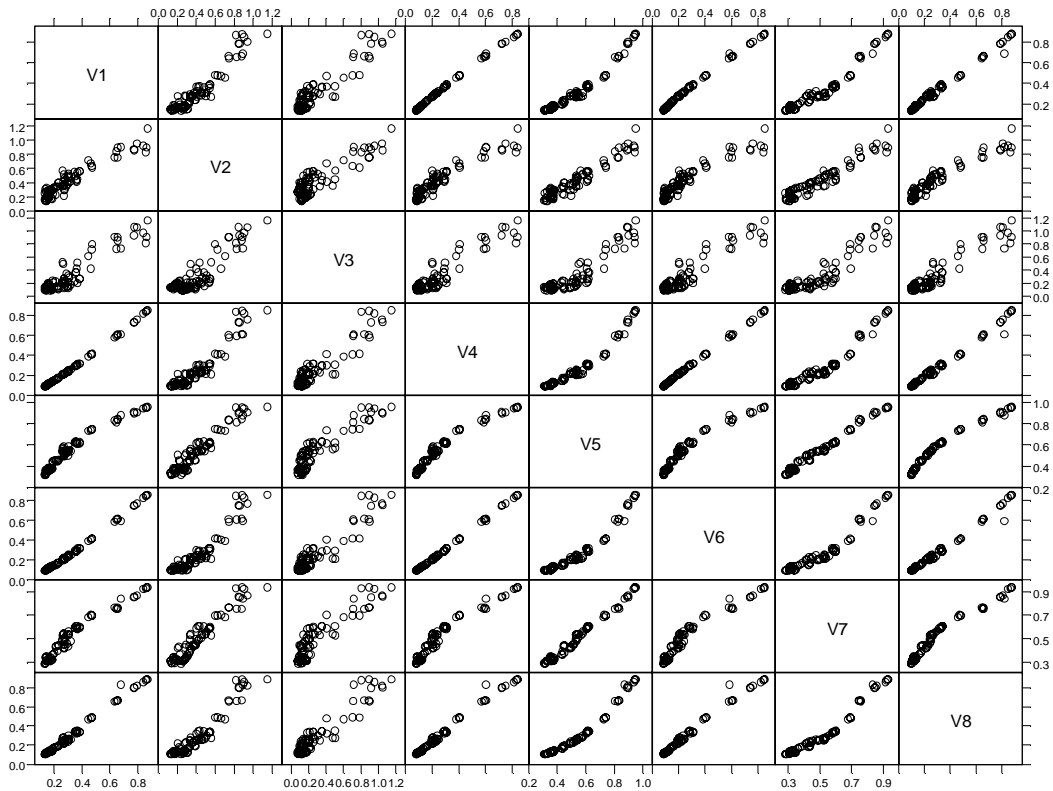

Figure 3.36: Scatterplot matrix of eight different pollution sensors.
2. Click the **Scatter Matrix** button  on the **Plots 2D** palette. The resulting graph is shown in Figure 3.36.